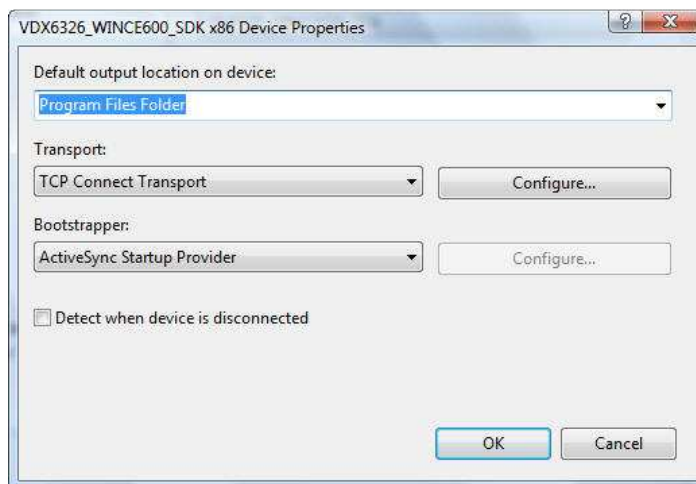

Fig. M08 - VDX6326_WINCE600 x86 Device properties
- Click on the **Properties** button to bring up **VDX6326_WINCE600_SDK x86 Device Properties** setting screen, as shown in Figure M08.